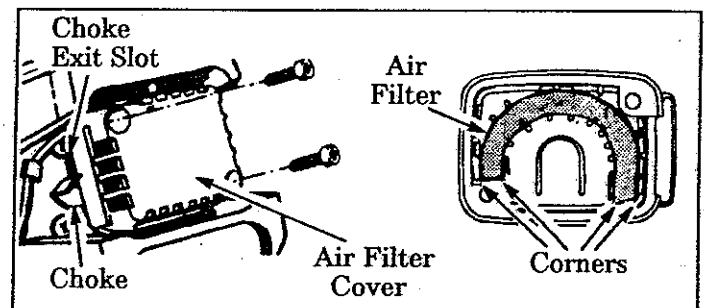

Figure 27
- a. Loosen the two Screws on the Air Filter Cover enough to remove the Cover from the Engine. Figure 27.
- b. Remove the Air Filter from the Cover. Figure 27.
- e. Reinstall the Air Filter Cover, making sure the Choke Exit Slot (Figure 27) is placed over the Choke Lever.